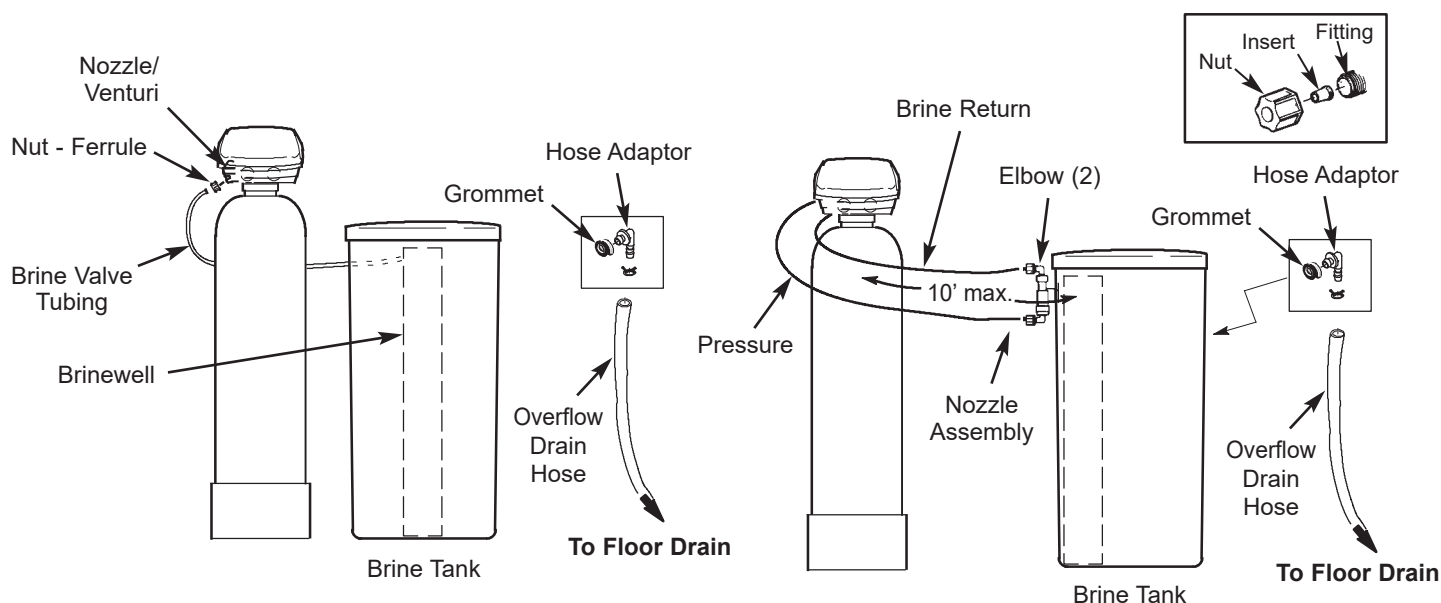

FIG. 7
2. **Softener Models: Move the brine tank assembly into position** nearby the resin tank. Enough tubing is included to allow locating the tank up to 10 feet away from the resin tank (Figure 7).
Thread the brine tube through the hole of the brine tank sidewall. Fasten tubing to the nozzle assembly (Figure 7) using the compression nut-ferrule, tightening securely, by hand only.
i. Install two elbows (in separate parts bag with the brine tank) into the top and bottom of the nozzle assembly (Figure 7).